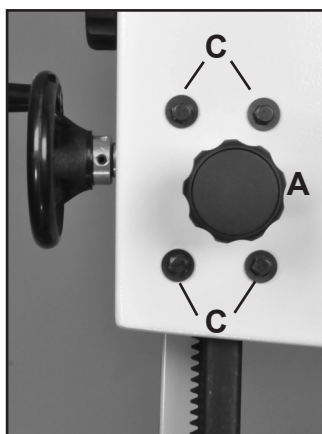

FIGURE 14
4. Loosen the four Hex Bolts located at the rear of the top frame. Fig. 14, C). This will allow the guide post to be shifted/angled a bit left or right to correct any positioning issues.